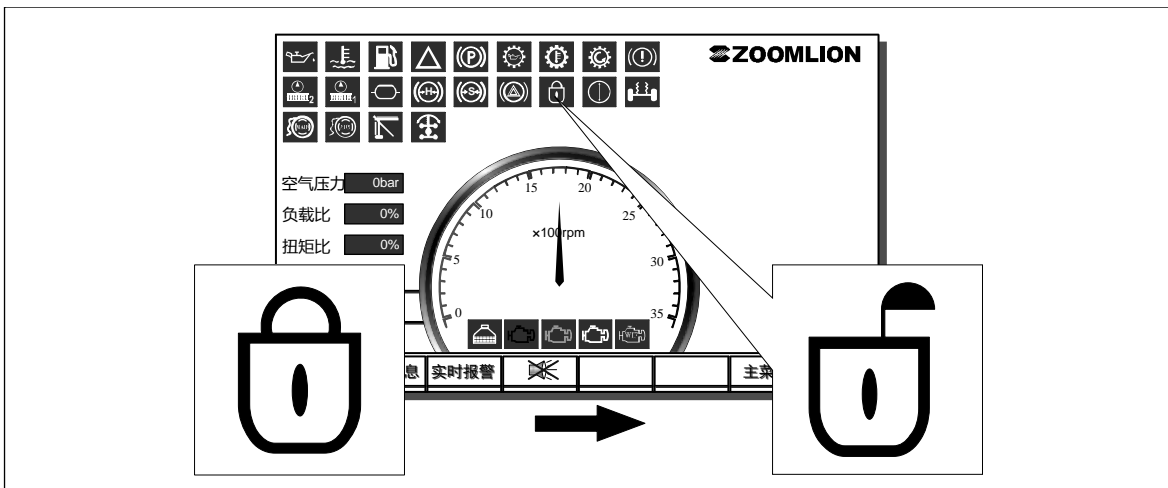

Figure 7-19 Unlock Indicator
- A. Disengage the swing lockout device with the swing lock switch. The swing lock indicator changes on the LMI. Refer to Figure 7-19.